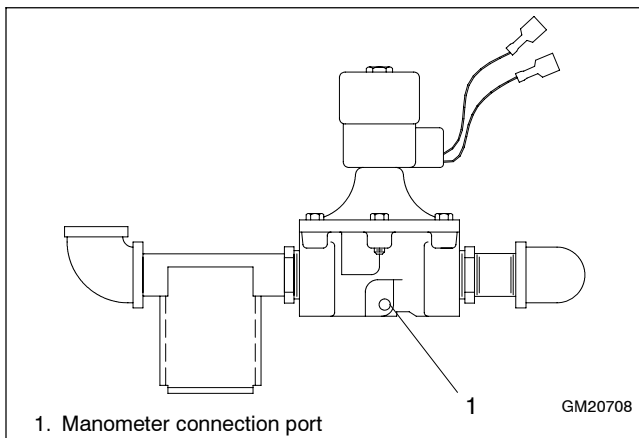

Figure 7-42 Solenoid Fuel Valve Manometer Port
- a. Remove the 1/8 NPT pipe plug from the solenoid fuel valve located at the generator set fuel inlet connection. See Figure 7-42.